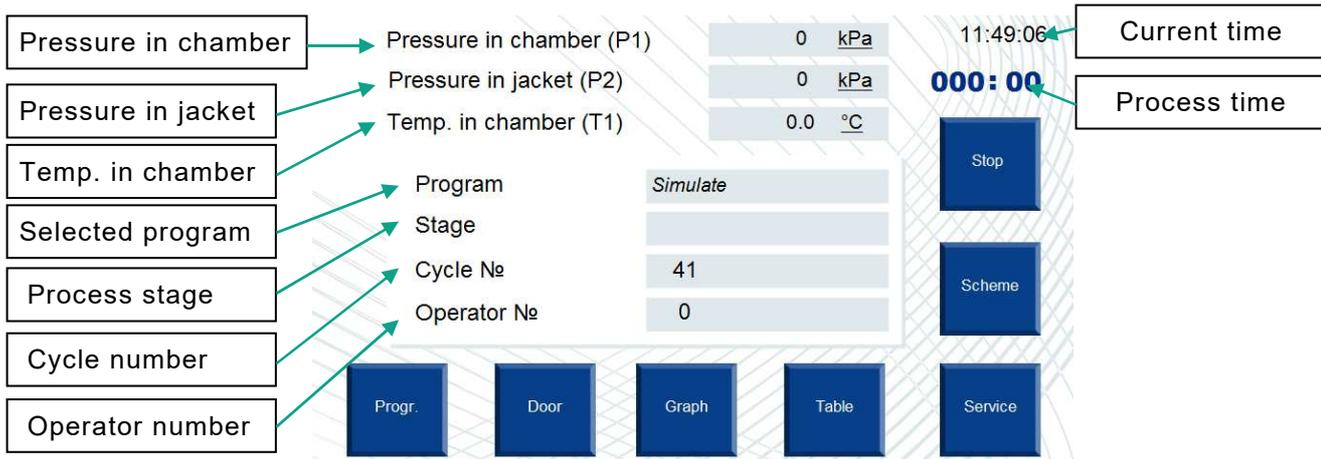

Fig. 4
**Enter** – this button navigates to the main menu screen (Fig. 4).
Press "Enter" to navigate to the main menu (Fig. 4).
**Back** – pressing this button returns to the main menu screen (Fig. 4).